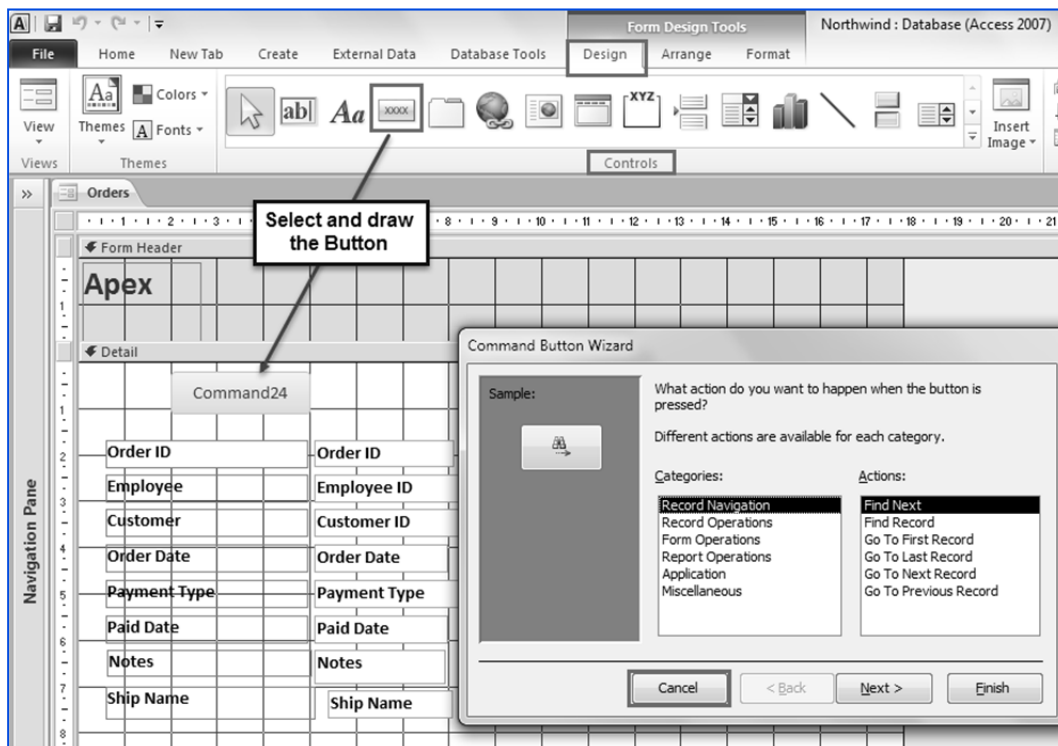

Fig. 4.2.10: Draw the button on the form
2. To add a *button* to the form, select *Design -> Controls -> button* to be added and draw it on the form, as shown in Fig. 4.2.10. Cancel the *Command Button* wizard that appears.